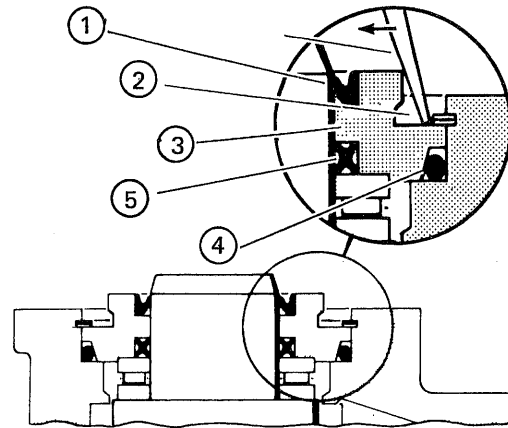

Fig. 144
- (14) Install dust seal (1) in seal ground bushing (3) with flat face of dust seal (1) toward bushing (3) (Fig. 144).
- (15) Install X-ring (5) in seal grand bushing (3) evenly by holding it with fingers (Fig. 144).
- (16) Put seal grand bushing (3) into spool (17) by rotating bushing (3). Then, tap in bushing (3) using a soft hammer, until bushing (3) sits evenly on bearing race (7) (Fig. 144).